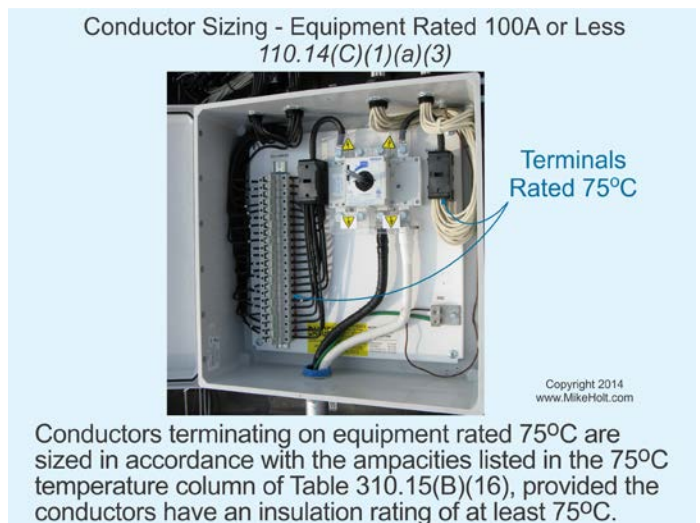

Figure 110–32
- (4) Motors marked with design letters B, C, or D, conductors having an insulation rating of 75°C or higher can be used, provided the ampacity of such conductors doesn't exceed the 75°C ampacity. Figure 110–33